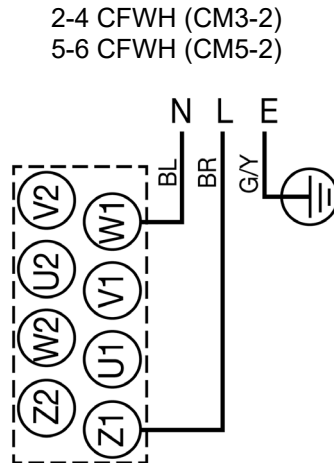

Figure 13
15. If removed, re-install pump and GPO assemblies, refer to **Figure 13** for pump wiring details